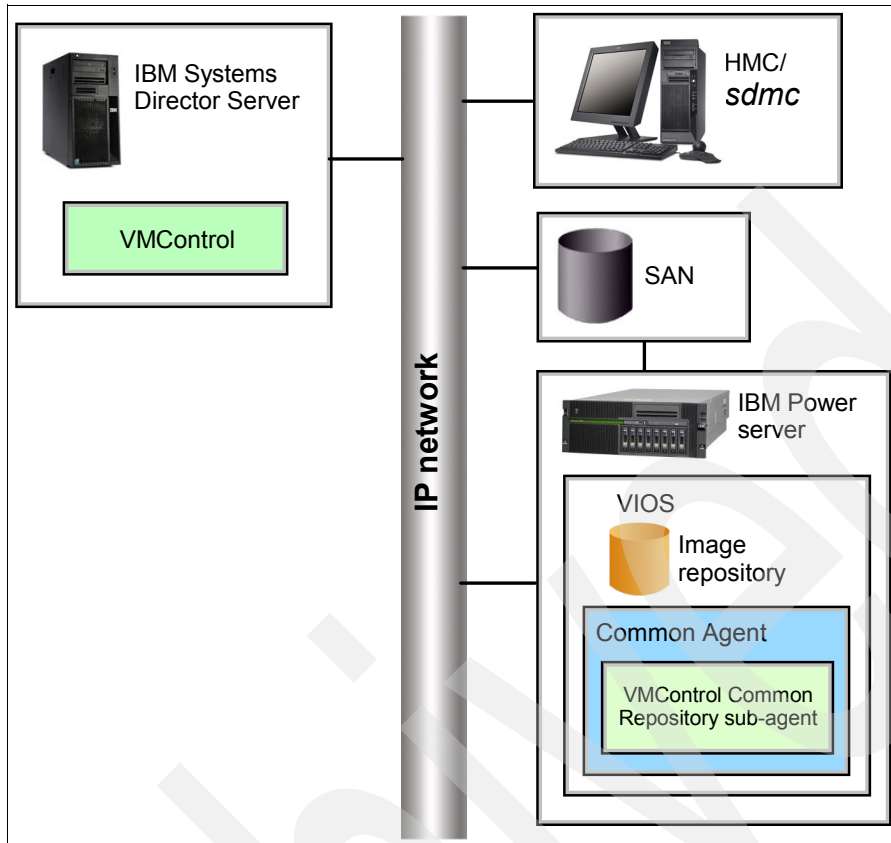

Figure 5-9 Repository subagent
- For VMControl to connect with the image repository, both the Systems Director Common Agent and VMControl Common repository subagents need to be installed in the virtual I/O server partition, as shown in Figure 5-9 on page 170.